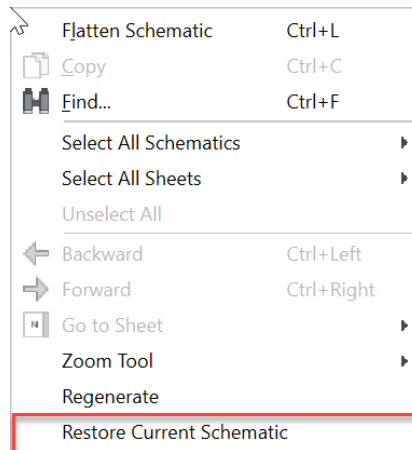

Figure 3.17. Restoring to Original Schematic
- To get back to the original schematic, right-click anywhere in the schematic window and choose **Restore Current Schematic** as shown in Figure 3.17.